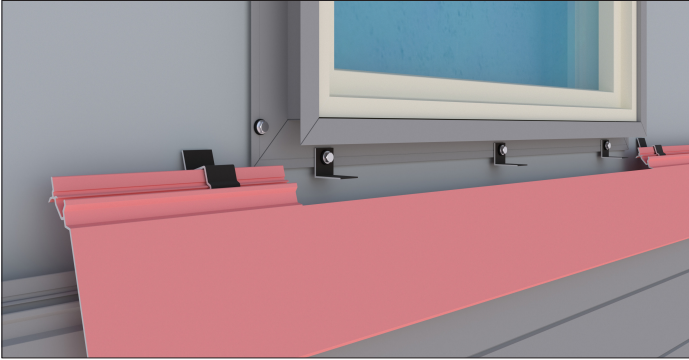

Figure 3.1
- 3 Notch the P46V or P44V to slide into the installed P13s under the sill of the window (Figure 3.1 and 3.2).